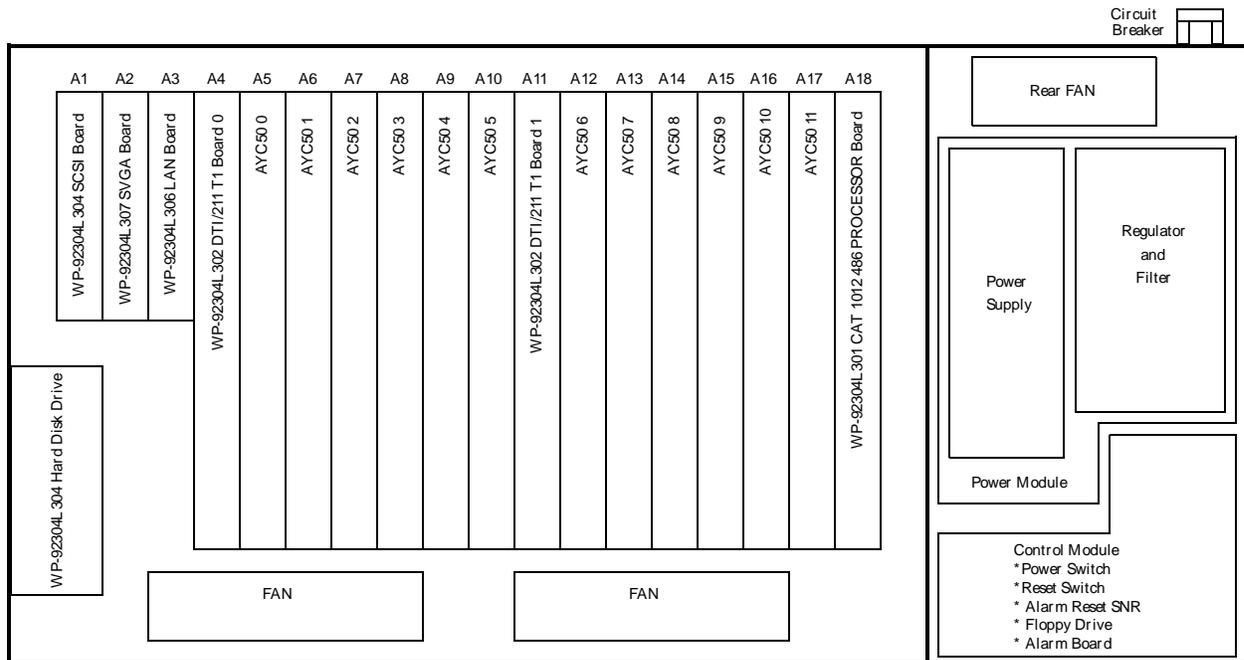

Figure 3. CDSU-I Circuit Pack Locations (Top View)
9. Is the replacement CDSU-I equipped with AYC50 circuit packs (Figure 3)?